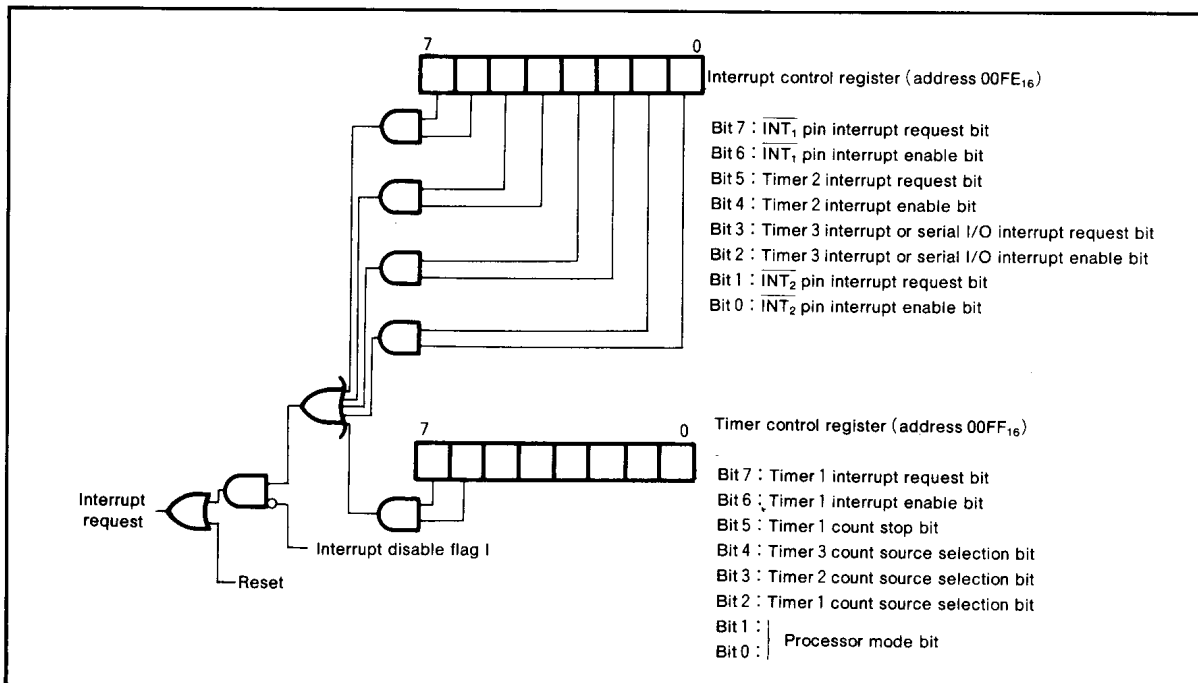

Fig. 3 Interrupt control
When an interrupt is accepted, the contents of certain registers are pushed into specified locations, as discussed in the stack pointer section, and the interrupt disable flag (I) is set, and the program jumps to the address specified by the interrupt vector, and the interrupt request bit is cleared automatically. The Reset interrupt is the highest priority interrupt and can never be inhibited. Except for the Reset interrupt, all interrupts are inhibited when the interrupt disable flag is set to "1". All of the other interrupts can further be controlled individually via the interrupt control register shown in Figure 3. An interrupt is accepted when the interrupt enable bit and the interrupt request bit are both "1" and the interrupt disable flag is "0". The interrupt request bits are set when the following conditions occur:
- (1) When the  $\overline{\text{INT}}_1$  or  $\overline{\text{INT}}_2$  pins go from "H" to "L"
- (2) When the levels any pin of P2 goes "L" (at power down mode)
- (3) When the contents of timer 1, timer 2, timer 3 or the counter of serial I/O go to "0"